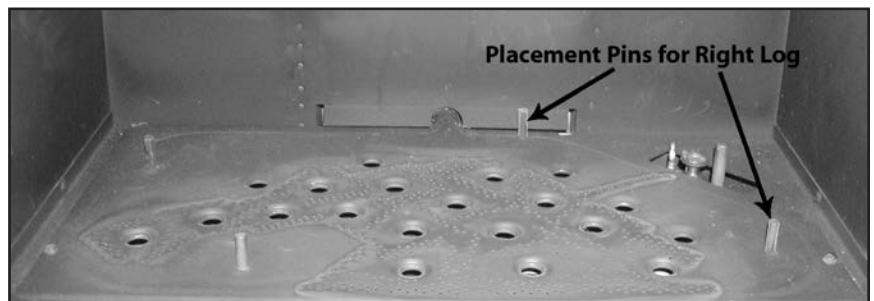

Figure 66: Step 1 of Log Placement.
2. Place the log set into the firebox. Locate each log by seating it down onto the burner tray support pins. Follow Figure 66 to Figure 72 proper log placement.